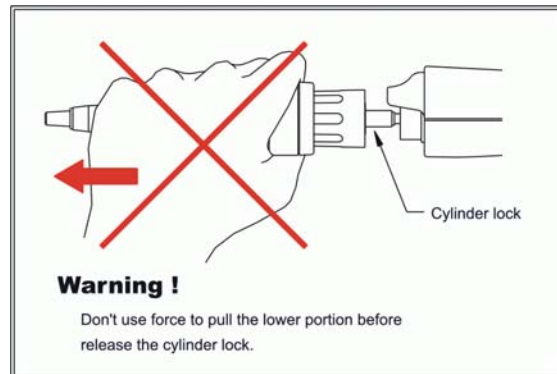
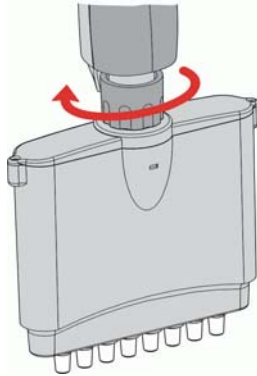

Figure 10: Incorrect removal of the lower piston assembly.
Figure 11: Loosen the connecting nut by unscrewing counter-clockwise.
Only the lower piston assembly of Labnet Excel electronic pipette can be steam-autoclaved (121°C, 1 bar, 20 minutes). NOTE: It is important not to exceed the the temperature of 121°C or 20 minute time during the autoclaving cycle. Autoclaving at a higher temperature or for longer period of time will damage the manifold and void the warranty. The autoclaved parts must be allowed to dry completely at room temperature for at least 2 hours before reassembly. Users can follow Figures 11~14 to disassemble the Labnet Excel electronic pipette. Please "DO NOT" use excessive force to pull down the lower part before releasing the cylinder lock as shown in Figure 10. This action will break the connection mechanism of the lower part, permanently damaging the instrument and will void the warranty.
2. Loosen the lower part of Labnet Excel electronic pipette by unscrewing the connecting nut in counter-clockwise direction as shown in Figure 11.